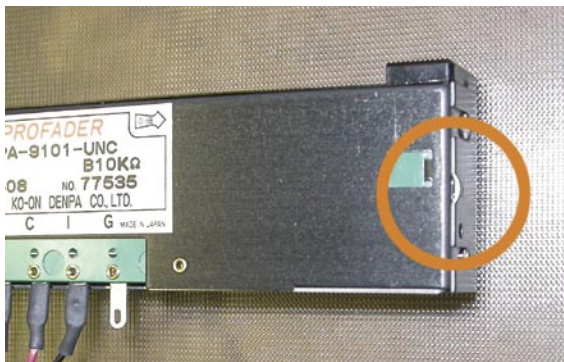

Figure C-8: Pry point on fader cover
5. Lay the fader assembly on your work surface, label-side up. Remove the snap-on fader assembly cover; it's held in place by round stamped bosses at each end. With the fader sitting label up and the connector pins to the front, you'll see a pry-point on the right end of the fader cover (Figure C-8). Use a jeweler's screwdriver to gently pry off the cover.